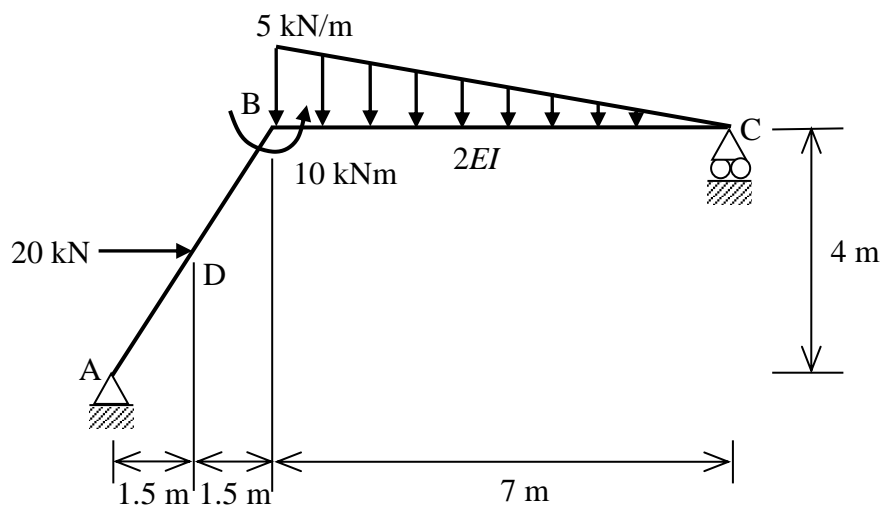

Figure 4/Rajah 4
4. **Figure 4** shows a frame subjected to a point load of 20 kN at point D, a concentrated moment of 10 kNm about point B and a linearly varying distributed load from 0 kN/m at point C to 5 kN/m at point B. Use the virtual work method to determine the horizontal and vertical deflections at joint B of the frame. Take $E = 200$ GPa and $I = 500 \times 10^6$ mm⁴. Neglect the deflection due to axial work.